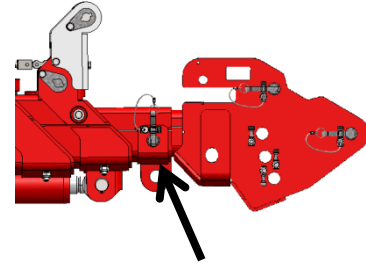

Figure: 44
- Attach the 30° adjustable section in the boom and secure it with the locking pin and locking clip (see figure 44).